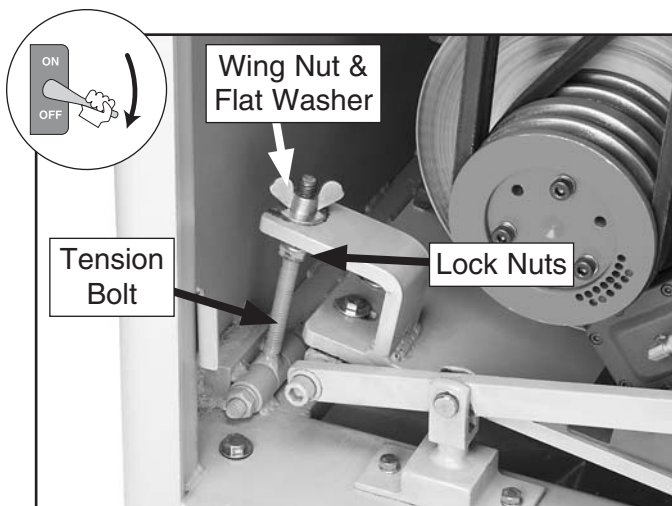

Figure 68 Tension bolt wing nut .
2. Loosen the lock nuts on the tension bolt (see **Figure 68**).
3. Loosen the wing nut on the tension bolt (see **Figure 68** on **Page 51**), move the wing nut and bolt out of the way, press down on the foot pedal to detension the V-belts, then secure it with the safety latch.